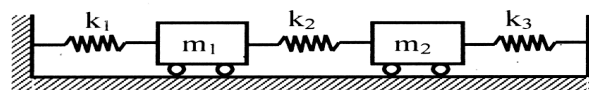

Fig.4, Q. No. 6 (b), P08AU65
- b. Determine the natural frequencies and the corresponding mode shapes for the system shown in Fig 4. Q.6. (b), $m_1 = 2m$, $m_2 = m$, $k_1 = k$, $k_2 = 4k$, $k_3 = k$. 12